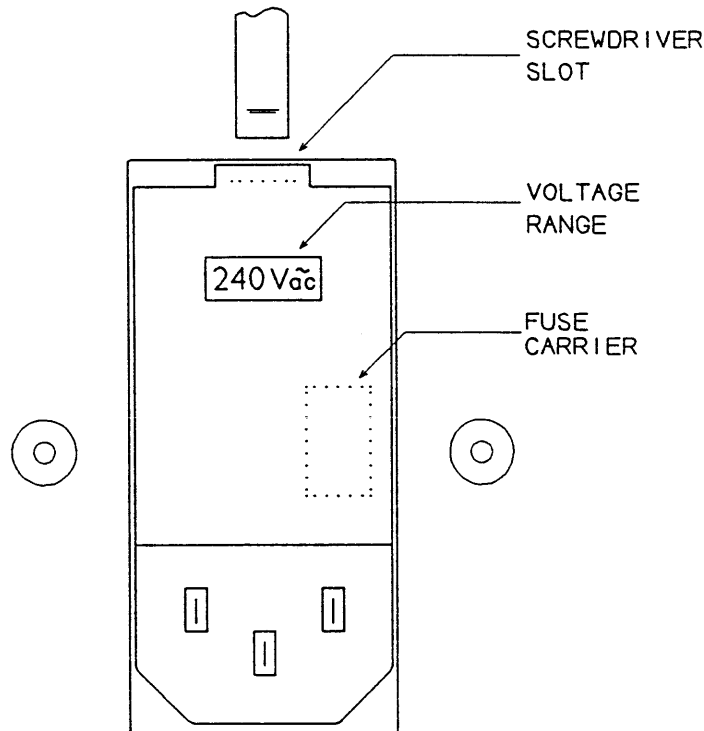

FIGURE 2.2.2 VOLTAGE SETTING
2. The 9914V should be checked for supply setting, which is printed on a label at the rear of the machine. The actual setting, which is visible on the mains input socket (see Figure 2.2.2) must match this, otherwise the setting must be changed and the fuse rating checked.
- ii) insert a 5 mm flat-bladed screwdriver where illustrated (in Figure 2.2.2) and hinge the panel open;